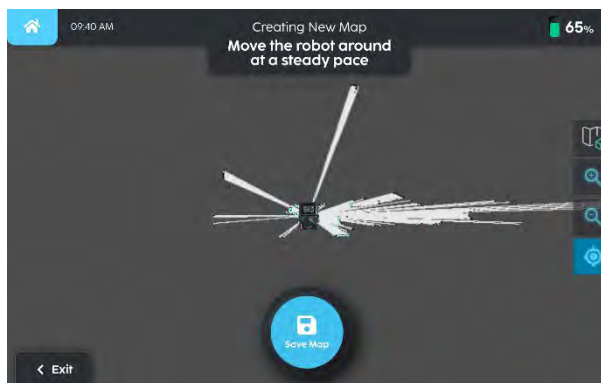

Fig. 3
1. Move robot around cleaning area, keep robot speed steady. (Fig 3).